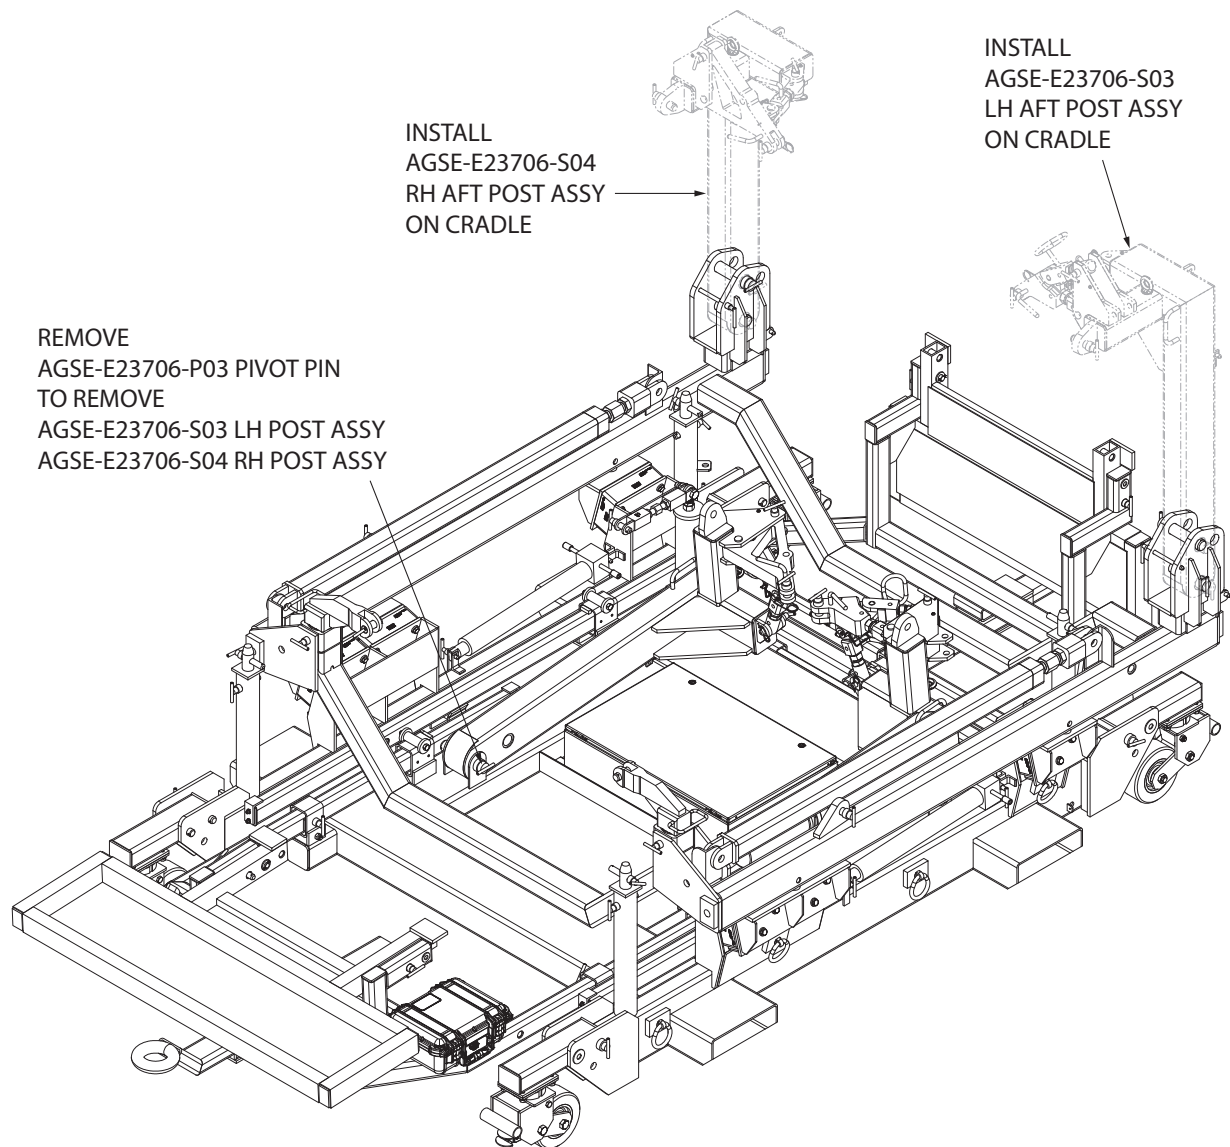

Figure 5.1-3
- 5) Remove the AGSE-E23706-S03 LH AFT post assembly and AGSE-E23706-S04 RH AFT post assembly from their storage on the base by removing four (4) AGSE-E23706-P03 clevis pivot pins.
- 6) Install the LH and RH AFT post assemblies on the cradle and secure with the hardware removed in Step 5. (Illustration Figure 5.1-3).